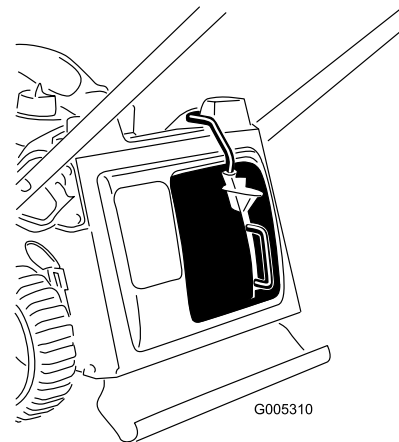

Figure 9
3. Release the button on the lever and ensure that the top of the lever is fully in the switch channel (Figure 9). **If the top of the lever is not in the switch channel, your mower will not start!**